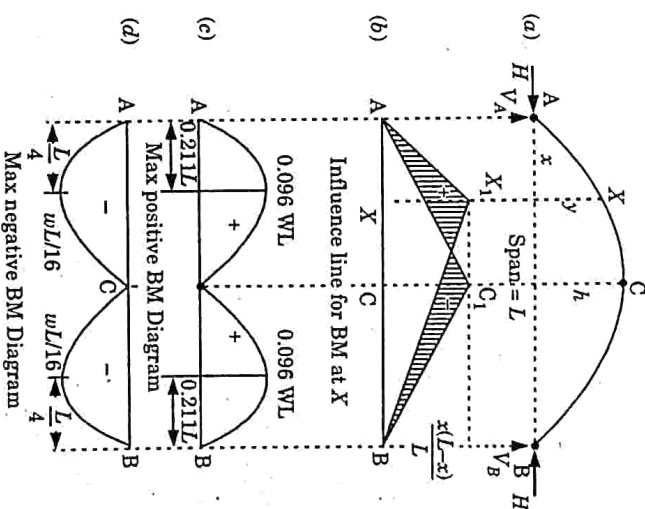

Fig. 5.18.1.
2. Consider any section  $X$  distant  $x$  from the left end. Fig. 5.18.1(b) shows the influence line diagram for the BM at the section  $X$ .
7. This section is at  $0.211 L$  from the right end. Fig. 5.18.1(c) shows the maximum positive BM diagram.